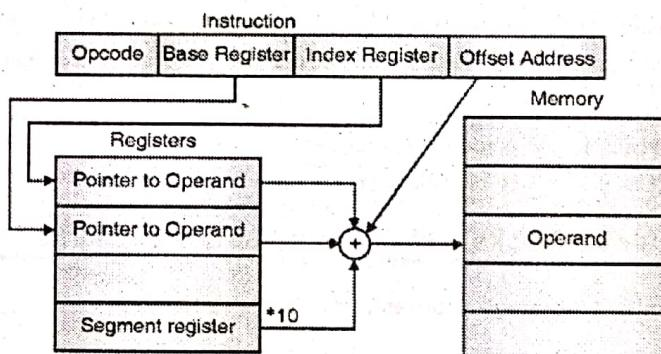

Fig. 9-Q. 6(b) : Relative Based Indexed Addressing Mode
- In this addressing mode the effective address is given by a base register and an index register along with an 8-bit displacement, specified in the instruction. This effective address is added with the segment register * 10H to generate the physical address as shown in Fig. 9-Q. 6(b).